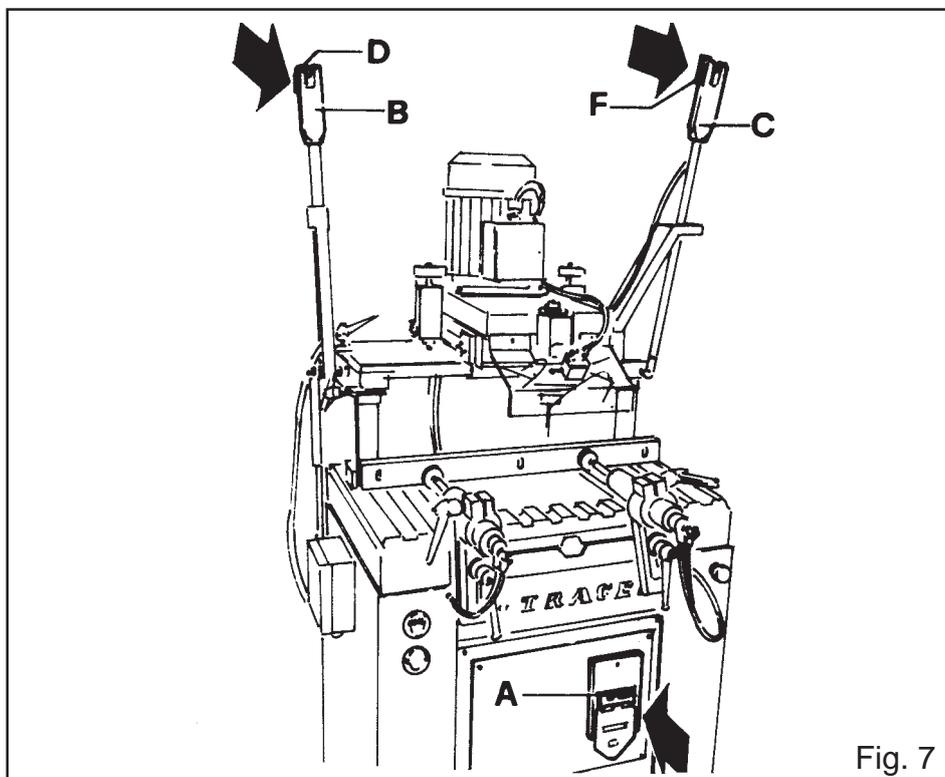

Fig. 7
- Press the black push button A (fig.7) of the magneto thermic.
- Grasp levers B and C (fig.7) pressing levers D and F(fig. 7) for the spindle's starting and the tool's lubrication.